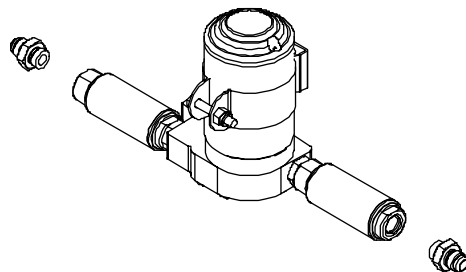

Figure 1-3
- 1-7. Apply pipe thread sealant to the pipe thread side of two 3/8-NPT to AN-08 Adapters and thread into the remaining side of the fuel filters. (Figure 1-3)